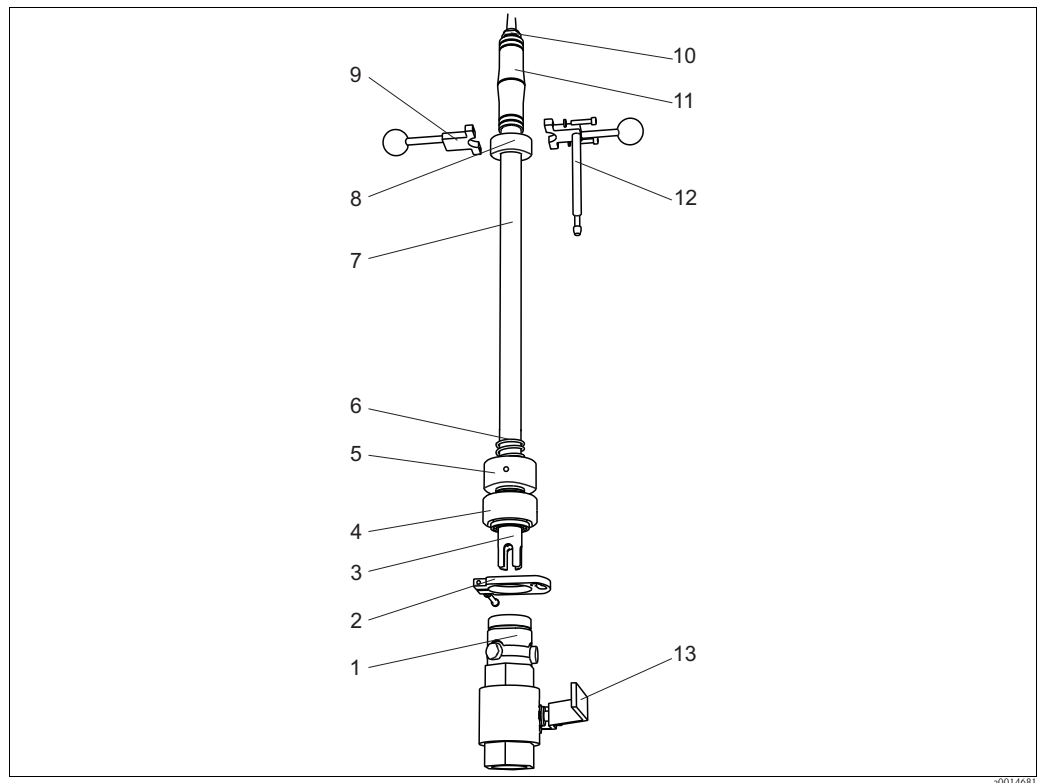

Fig. 10: Installation of the safety kit
1. With the CPA450 in the "insertion" position (desired position in the process), mark the immersion tube approximately 20 mm (0.8 inches) above the compression fitting (Fig. 10, pos. 5). This is the approximate location of the Locking Device Safety Kit top part with handles (Fig. 10, pos. 9).
6. Unscrew lock ring (Fig. 10, pos. 4), and remove CPA450 assembly from rinse chamber (Fig. 10, pos. 1).
1. Take off the cable protection (Fig. 10 pos. 10).
2. Unscrew sensor holder (Fig. 10, pos. 3) and remove sensor. Disconnect sensor from sensor cable.
3. Unscrew immersion tube handle (Fig. 10, pos. 11) from immersion tube, and pull cable out of immersion tube.
4. Remove setting collar (Fig. 10, pos. 8).
5. Slide compression spring (Fig. 10, pos. 6) onto immersion tube.
6. Attach both top parts of the Locking Device Safety Kit (Fig. 10, pos. 9 & 12) to immersion tube where previously marked. Tighten locking screws to 3.5 Nm (2.6 lbf ft).
10. Attach the bottom part of the Locking Device Safety Kit (Fig. 10, pos. 2) on rinse chamber. Make sure the chamfered edge of the bottom part points to the ball valve. Tighten locking screw to 3.5 Nm (2.6 lbf ft).
1. Carefully open ball valve (Fig. 10, pos. 13). Check for leaks. Make sure compression fitting (Fig. 10, pos. 5) is not yet tightened.
2. Using handles of Locking Device Safety Kit, push the handles towards the ball valve so that safety rod (Fig. 10, pos. 12) passes through opening in Locking Device Safety Kit bottom part (Fig. 10, pos. 2). Turn handles counter-clockwise and lock safety rod in groove on Locking Device Safety Kit bottom part.